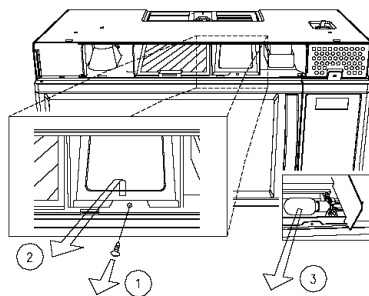

FIGURE 4
3. Remove a screw (1) for lamp over. (See Figure 4.)
4. Pull out the Lamp cover. (See Figure 4.)
7. Replace lamp cover and secure it with the screw (1).